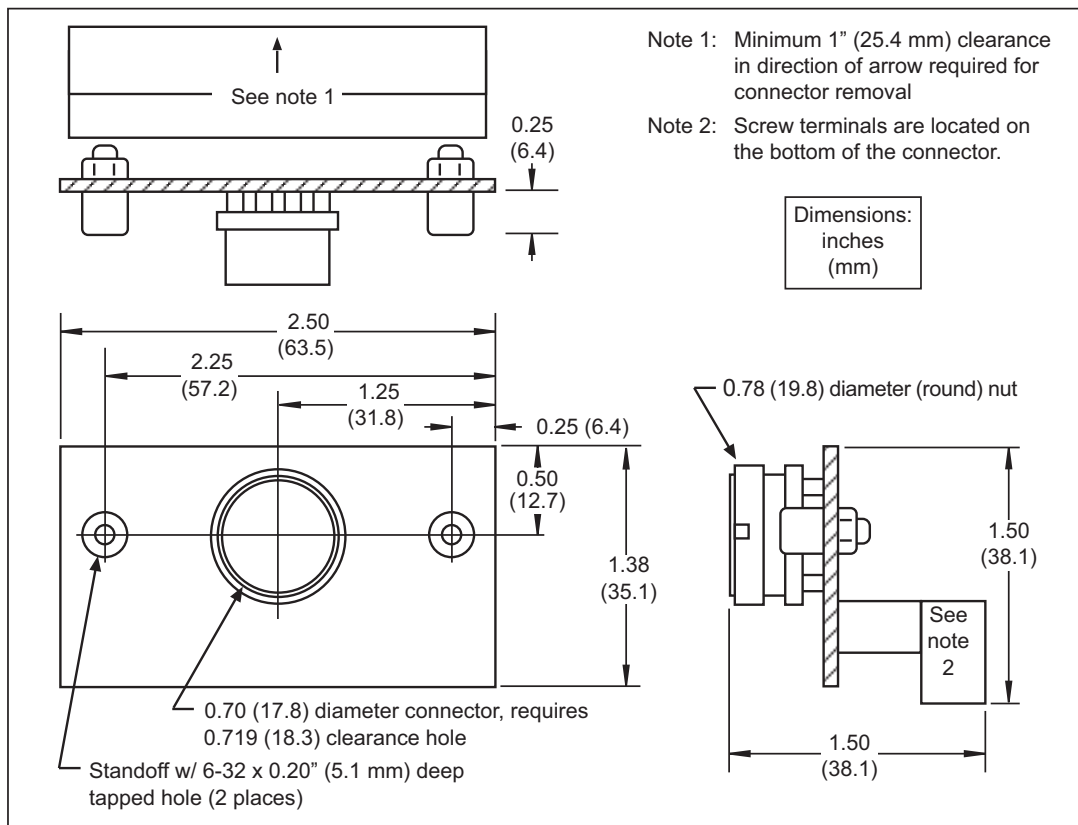

Figure 3-9. QDP PC Board: Mounting Dimensions
1. Install your QDP kit circuit board in a suitable enclosure on the die (see Figure 3-9, page 3-10 for mounting dimensions). If your sensors have amplifiers, install a DIN rail in the enclosure, and mount the amplifiers on it.